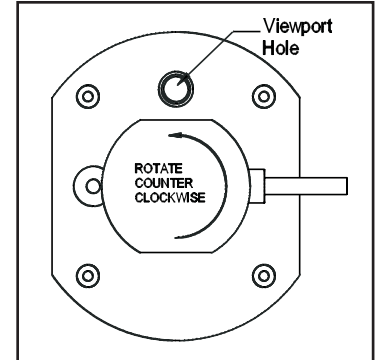

Figure 9
1. Rotate the UV-Aire ballast assembly counterclockwise until it stops. (See Figure 9)
6. Position the ballast assembly power cord 90° to the viewport hole on the mounting base. (See Figure 9)